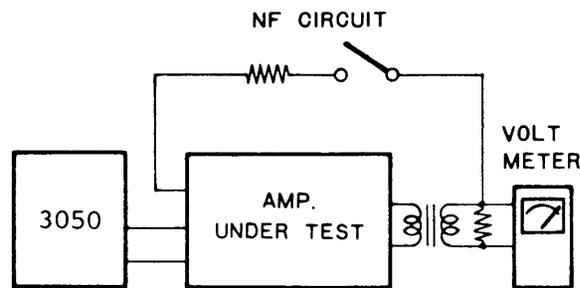

Fig. 6. Measurement of NF (negative feedback) value.
- b. Connect an output meter across the voice coil of the speaker or dummy load, as shown in Fig. 6, and adjust the 3050 so that the amplifier delivers rated output. Set the gain control on the amplifier, if provided, in the fully clockwise position. Note the amplifier input voltage required.